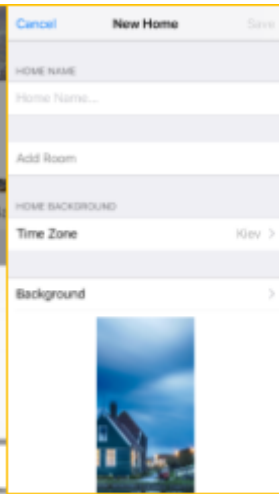

Figure 18
10.5.3. Fill in the required fields (Fig. 18):